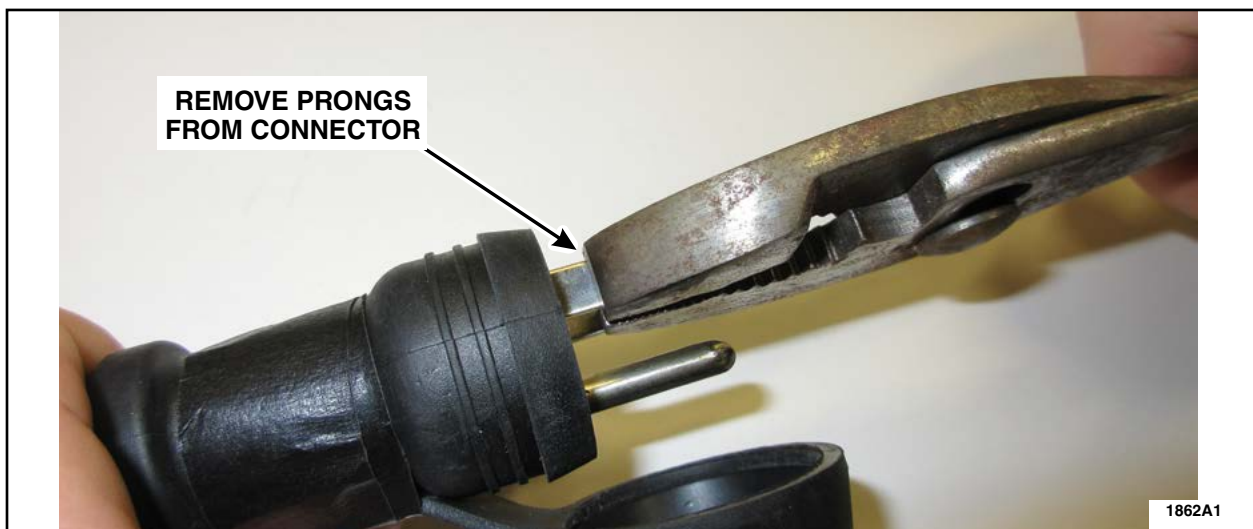

FIGURE 19
1. Remove the three prongs on the block heater cable using pliers, by bending the prongs back and forth to break the prongs off. See Figure 19.